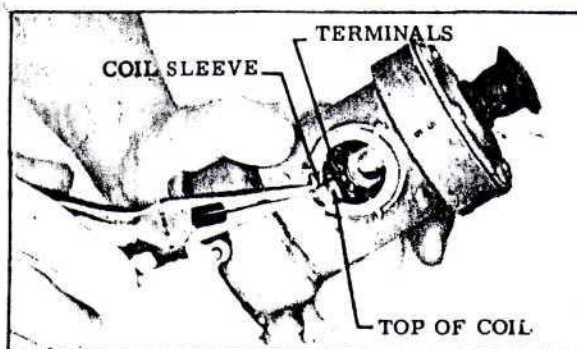

FIGURE 16
The coil is seated when the side of the coil body is visible at the switch opening (Figure 16).
1. Install contact sleeves into the coil terminals (Figure 16).